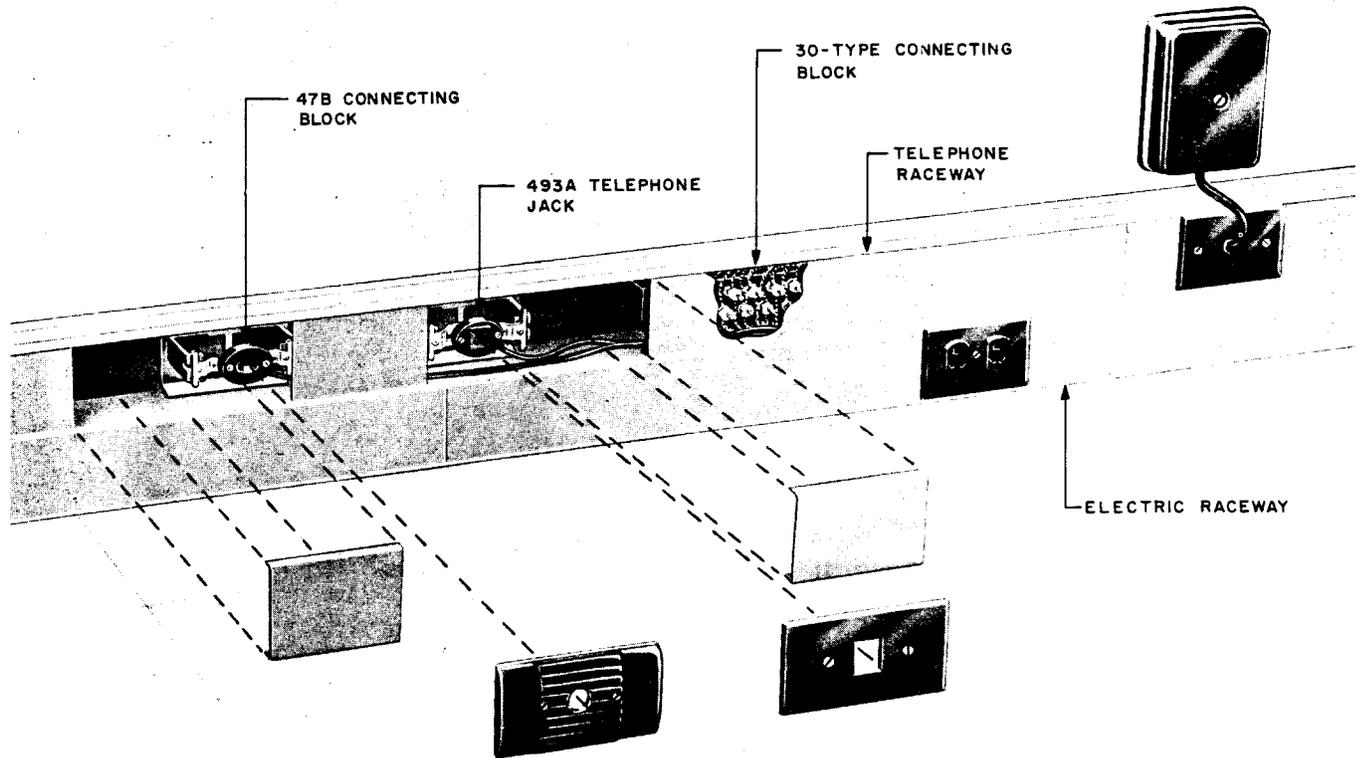

Fig. 2 — Metal Tele-power Duct Raceway
- This system is installed on the surface of the wall, or as a metal baseboard (Fig. 2).